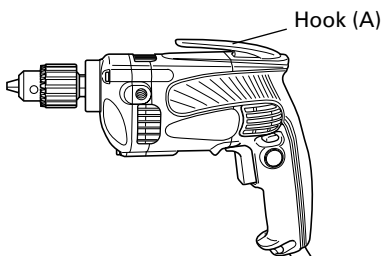

Fig. 14
11. Attaching the hook. (Optional accessory) (Fig. 14)